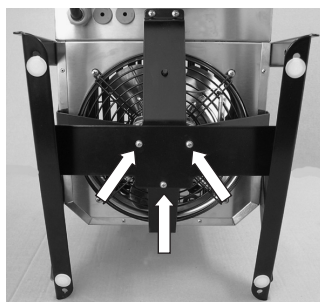

Fig 4
3. Remove screws and associated plate from motor, see fig 4.